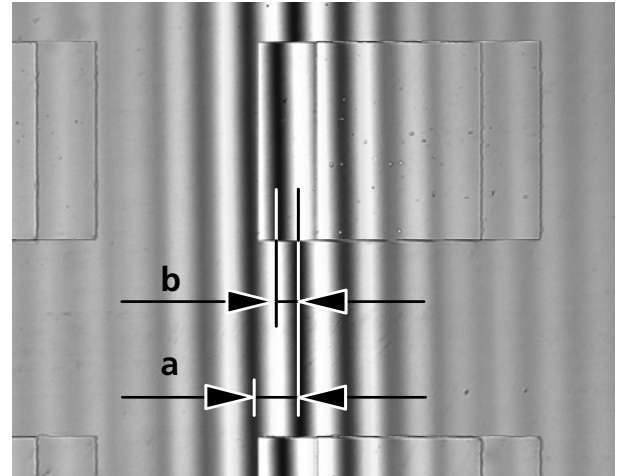

Fig. 4-70 Interference fringe pattern
(2) Instrument equipment
(3) Setting reflected-light TIC
- To select the structure to be measured, turn control wheel (4-69/1) of TIC slider or modulator turret until the interference fringe system is vertical to the splitting direction of the specimen (see Fig 4-70). The interference fringes can be shifted by means of setscrew (4-69/2) of the TIC slider or the modulator turret.
The values for a and b (see Fig. 4-70) are determined using the eyepiece reticle or the micrometer eyepiece.